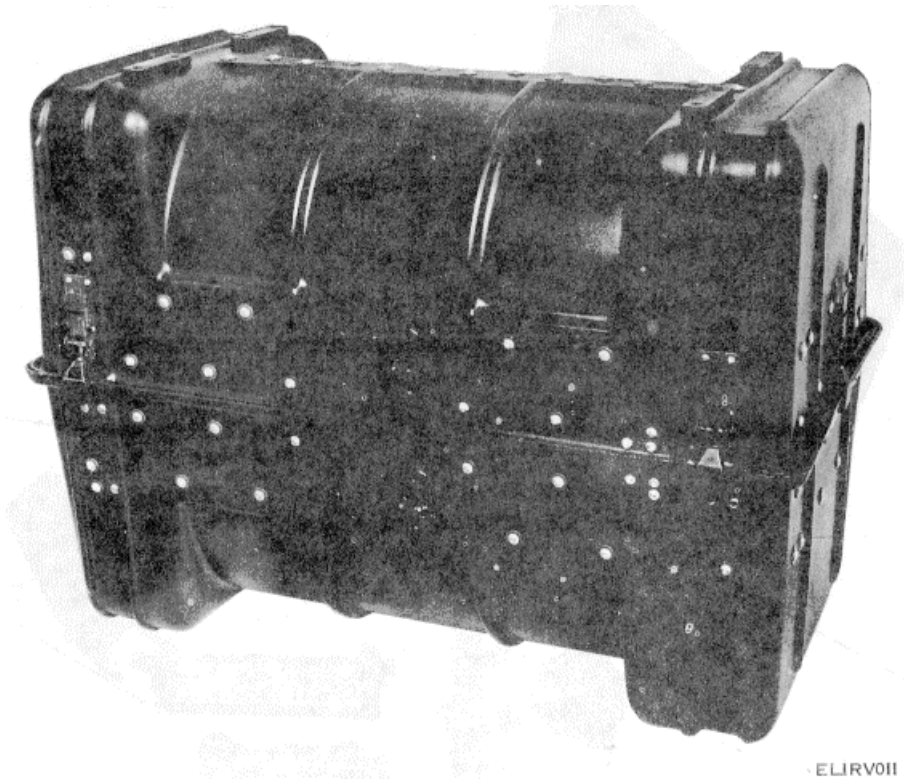

Figure 1-11. Storage container assembly SM-C-574240
a. Storage container assembly SM-C-574240 is used to store the DIELGUIDEs during transit, and the antenna horn protective cover assemblies during operation. Two storage container assemblies are provided, and each stores two DIELGUIDEs or two protective covers. Storage container assemblies SM-C-574240 is illustrated in figure 1-11.